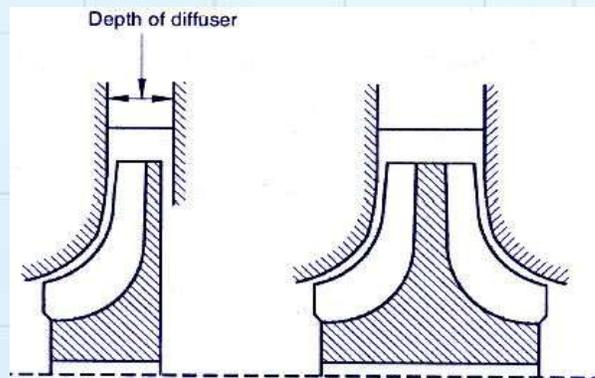

Fig.7.3 – Single sided and double sided impeller
- ▶ The impeller may be a single sided or double sided as shown in Fig. 7.3.